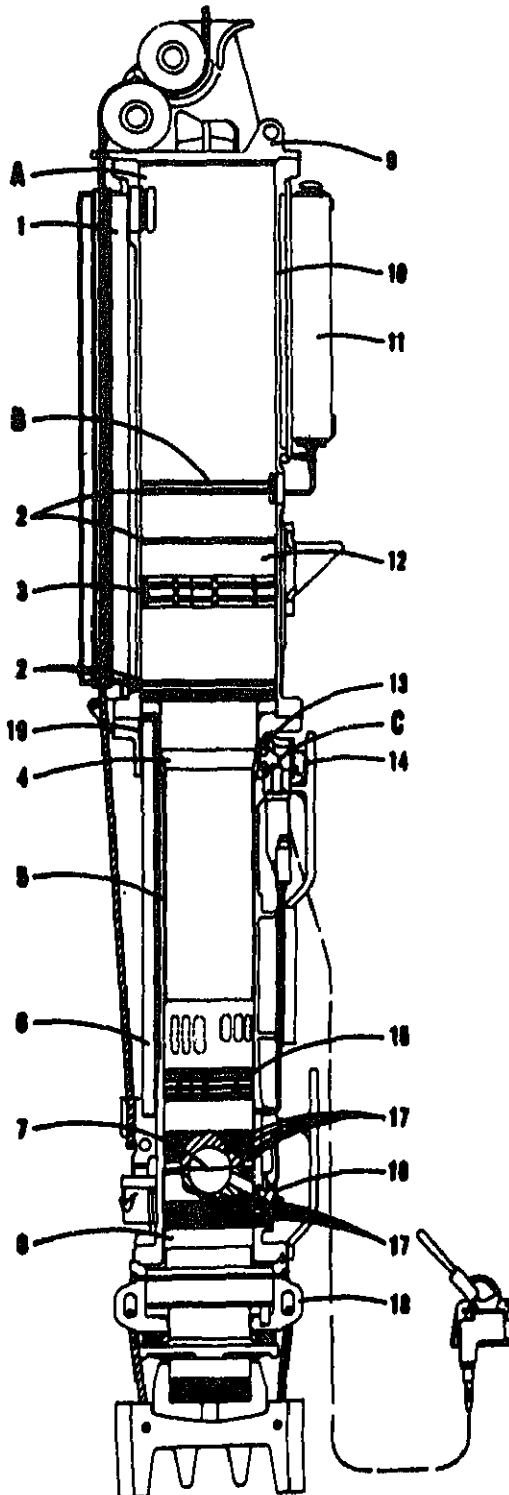
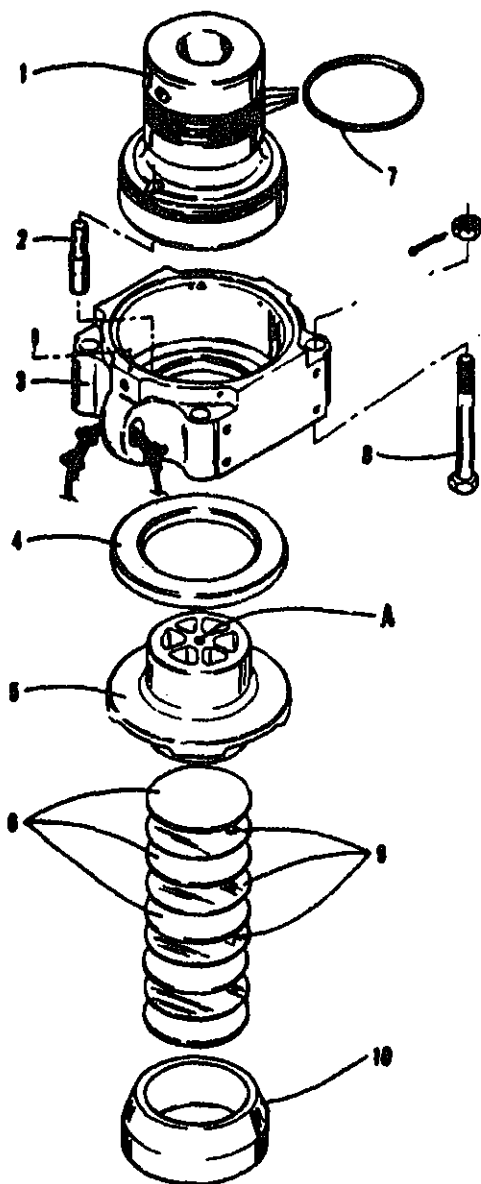

FIG. 11-1
FIG. 11-3
CYLINDER HEAD Figure 11-1
The cylinder is manufactured in two parts, the upper cylinder and lower cylinder Fig. 11-1. An area which is called the safety space (A), is located between the cylinder head and the bounce chamber tank ports. This area keeps the ram from striking the cylinder head as total compression would have to be overcome for it to do so. The entire cylinder will noticeably begin to lift, or rack, when the ram enters this safety space. The output energy rating device, Section 8, can be used to determine the condition of the cylinder walls, compression rings, and air leaks.
The ram, Fig. 11-1 is a free piston and is the means by which the work output of the Hammer is delivered to the pile thru the anvil and driving head.
The bottom of the ram has four compression rings, and a wear ring, Fig. 11-1, which guide the lower portion of the ram in the lower cylinder. This wear ring is located above the compression rings. The condition of the sight check grooves can be observed through the intake-exhaust ports. As explained earlier, should any of the ring grooves wear smooth, the wear ring should be replaced.
- Install lifting eye bolt in ram at (B), Fig. 11-1, and lock with jam nut. (To enable easier eyebolt installation ram can be raised using lifting device).
The push rod bearing Fig. 11-1, should be inspected for wear and replaced if necessary whenever the ram is removed. (Refer to PUSH ROD BEARING).
Use the following procedure when field installation of wear rings, Fig. 11-1, become necessary:
To replace the push rod bearing Fig. 11-1, it is necessary to separate the upper and lower cylinders. Use a 2" dia. x 12" long rod for removal. Using a piece of wood to avoid damaging bushing drive it into place.
The anvil Fig. 11-1 is located at the bottom of the cylinder and relays the energy, delivered to it, from the ram to the pile. As the ram descends, closing intake-exhaust ports, it compresses air between it and the anvil. The air compression preloads the anvil and pile and is contained between the ram and anvil by means of compression rings located above the flange of the anvil, Fig. 11-3.
The anvil moves up and down 1 3/8" inside the anvil retainer, Fig. 11-3, and has its movement limited by a flange which is part of the anvil casting. An alignment pin locates the anvil with the anvil retainer to prevent the anvil from turning. The downward travel of the anvil is curtailed by a shoulder which is machined in the anvil retainer. The anvil retainer is located with the lower cylinder by a dowel pin and is held in place by means of anvil retainer bolts.
- (b) Remove nuts from top of anvil retainer bolts, Fig. 11-3.
The recoil damper Fig. 11-3 is of a material that absorbs the shock loadings of the cylinder. It rides on the upper portion of the cushion adapter cap, just below the anvil retainer assembly. The purpose of the recoil damper is to minimize the effect of shock caused by pile or soil rebound.
The adapter assembly used in conjunction with the driving head consists of a male and female unit. Refer to Figs. 11-3 and 11-4. Five plastic and four aluminum discs are located in this unit. The plastic and aluminum discs are to be alternated, starting out with a plastic disc. The aluminum discs act as a fire wall between the plastic, as high temperatures are generated when driving piling. These temperatures would otherwise burn up the plastic. After proper assembly, the adapter is placed between the anvil recess and the driving head.